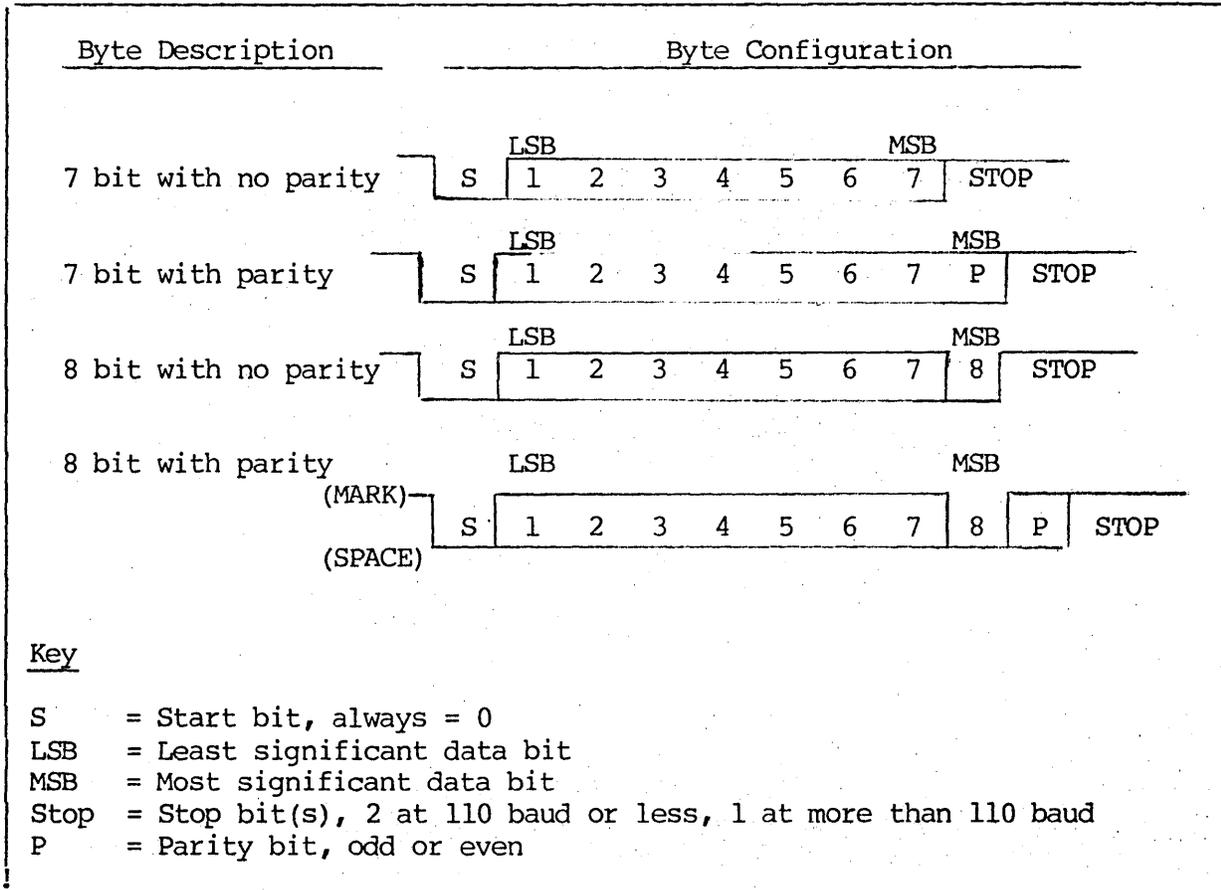

Figure 13.3 Model One/10 Byte Configurations
This feature determines whether each transmitted character contains eight (default) or seven data bits. When you select 8-bit characters, Bit #8 (L.S.B.) is always set to space (0) for normal ASCII text (see Figure 13.3 for possible byte configurations).